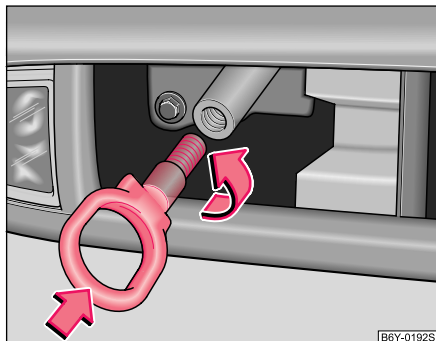

Fig. 149 Front bumper: Installing the towing eye
- Screw in the towing eye anticlockwise down to the stop ⇒ **fig. 149** and tighten up using the wheel wrench (push the wheel wrench through eye).